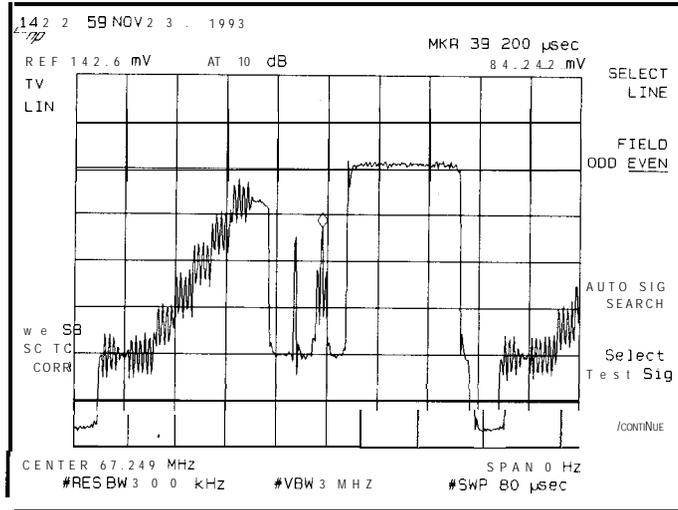
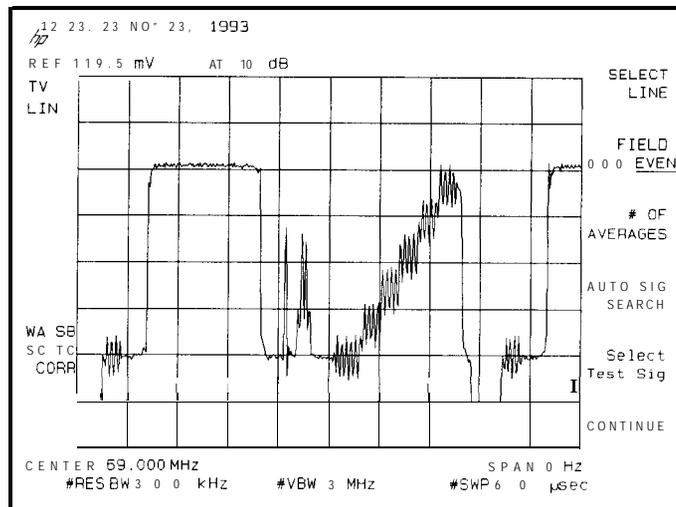

Figure 8-12. FCC Composite Test Signal
Figure 8-13. NTC 7 Composite Test Signal
1. An appropriate test signal must be present or the test will not return meaningful results. Refer to Figure 8-12 and Figure 8-13.